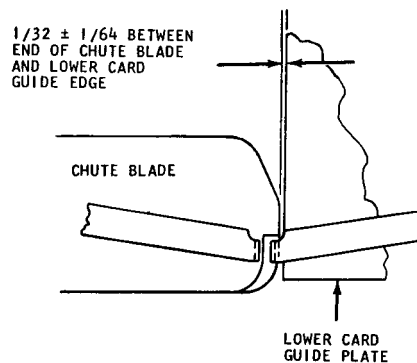

Figure 21. Chute Blade (Top View)
4. Adjust the chute blades (use the chute blade mounting screw) for  $\frac{1}{32}'' \pm \frac{1}{64}''$  clearance between the end of the lower chute blade and the lower card guide plate (Figure 21).